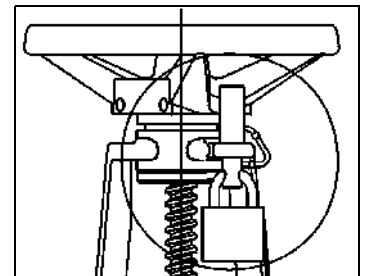

Figure 2—Locked Position
4. Lock the pin in the yoke by inserting a customer-supplied lock into the bottom hole in the lockout. See Figure 2.